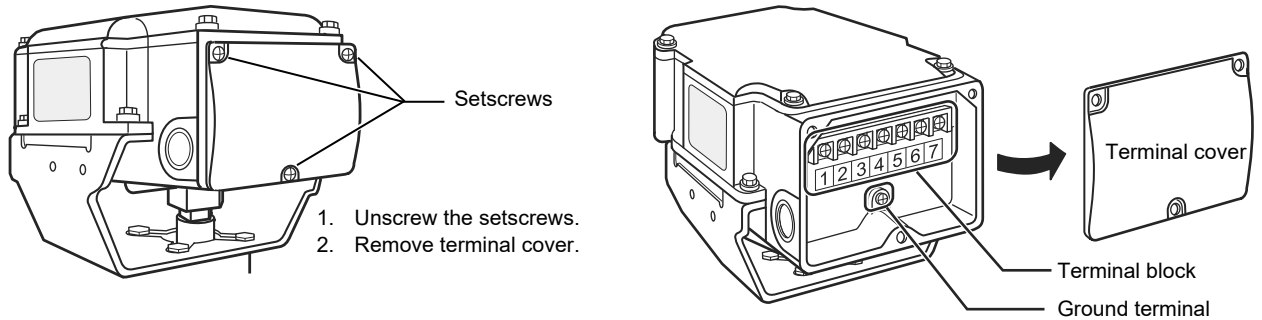
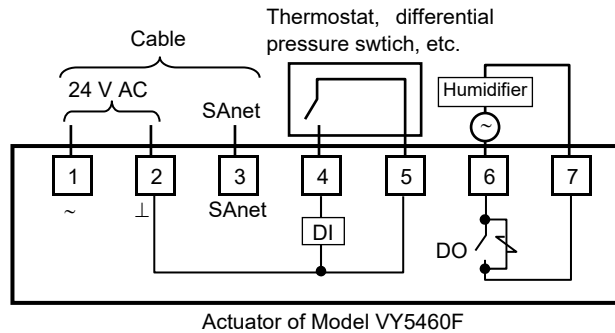

Figure 17. Terminal cover removal
Figure 18. Basic connection example
- 2) Unscrew the 3 setscrews (M4 × 10) of the terminal cover and remove the terminal cover, as shown in Fig. 17.
- 3) Correctly connect the wires to the terminals with M3.5 screw terminal lugs, referring to Fig. 18. To connect a device with over 100 V AC to the sub-DO, be sure to ground the actuator with 100 Ω or lower ground resistance. Refer to Fig. 17 for the location of each terminal.
- 1) Unscrew the setscrews and remove the terminal cover. See Fig. 17 for removing the terminal cover.